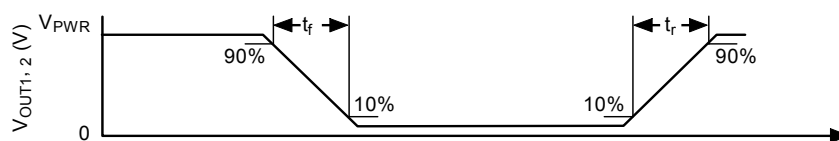

Figure 4. Output Switching Time
23. Rise Time is from the 10% to the 90% level and Fall Time is from the 90% to the 10% level of the output signal. See Figure 4, page 8.